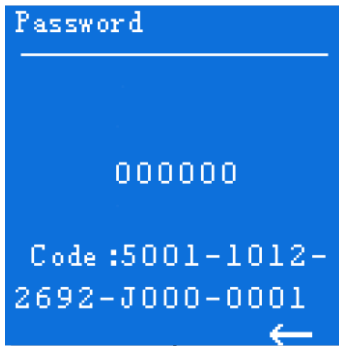

Figure4-14 Password input page
In the Settings management page, select "Permission" option to enter the password entry page first, as shown in Figure4-14.
2. The way for obtain the trial period password: after the service provider agrees, report the series number on the password input page (as shown in Figure4-14), then you can obtain the corresponding passwords.